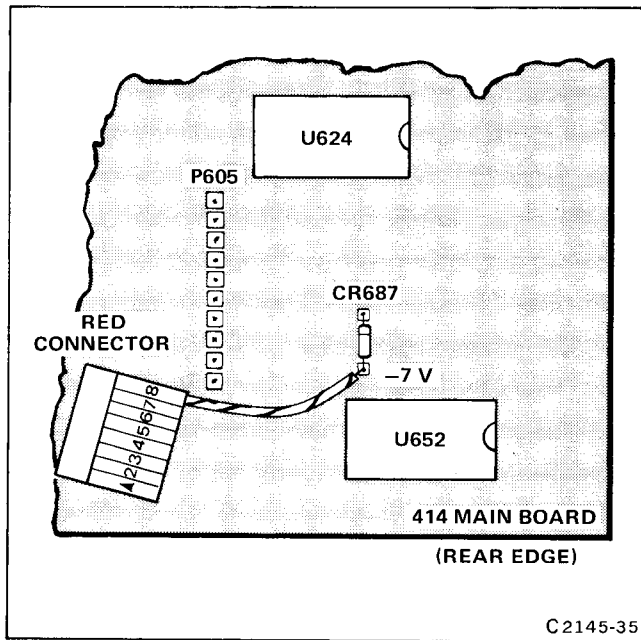

Figure 1-12. Adding wire to -7V on Standard 414 Main board.
414—A1 through A5, A7, A13, B8 (connect violet connector to Manifold board as shown in Figure 1-12), B10 through B17.
7. Install white-red wire (with 8-conductor red connector) to anode of CR687 as shown in Figure 1-12.